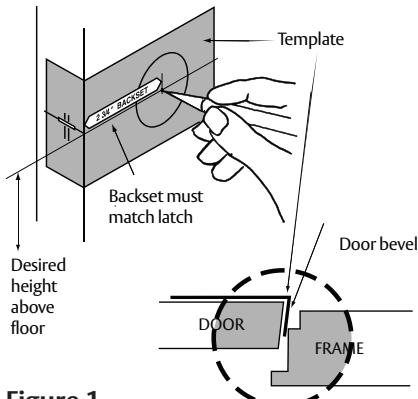

Figure 1
1. Use template A8290 to mark the door. See Figure 1.